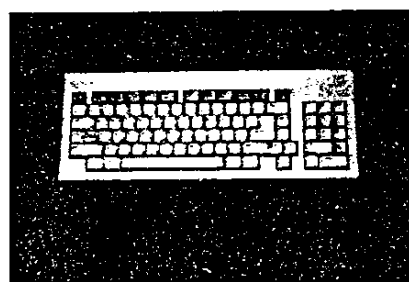

Fig. 2-3. Keyboard
2.2.1 If keyboard replacement is necessary, remove keyboard cable from keyboard assembly, DO NOT REMOVE KEYBOARD FROM CASE ASSEMBLY. Warranty exchange is for the entire keyboard assembly, as shown in Fig. 2-3.